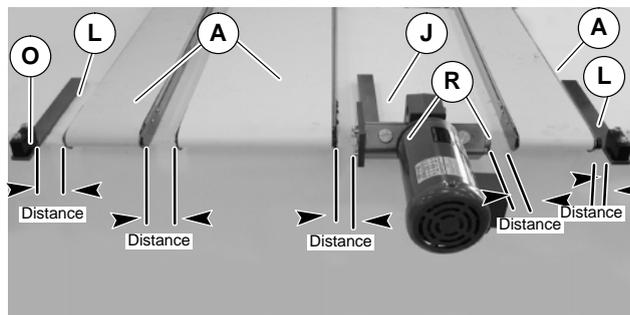
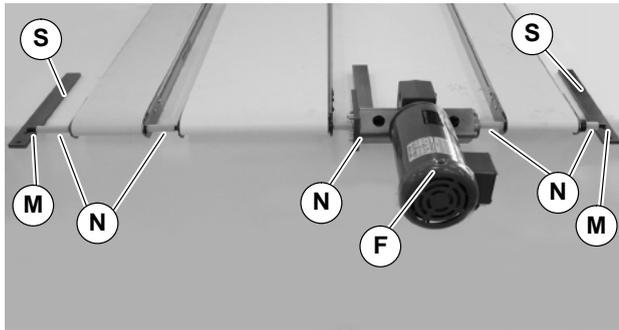

Figure 19
Figure 21
- Align conveyors between gearmotor support assembly (J of Figure 19) and bearing support assembly (L).
NOTE: Do not secure the conveyors (A of Figure 19) to the mounting surface.
- Cut shaft cover (N of Figure 21) into pieces to match each distance (Figure 19) minus 1.5mm.
15. Slide hex shafts (M of Figure 21) through conveyors and shaft cover pieces (N) on both sides of gearmotor assembly (F) and into flex couplings.